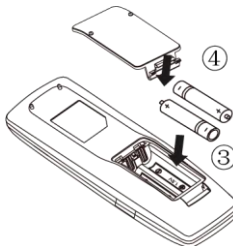

Fig.6
- (3) Place two 7# (AAA 1.5V) dry batteries, and make sure the position of “+” polar and “-” polar is correct (as shown in Fig 6③).
- (4) Reinstall the cover (as shown in Fig 6④).